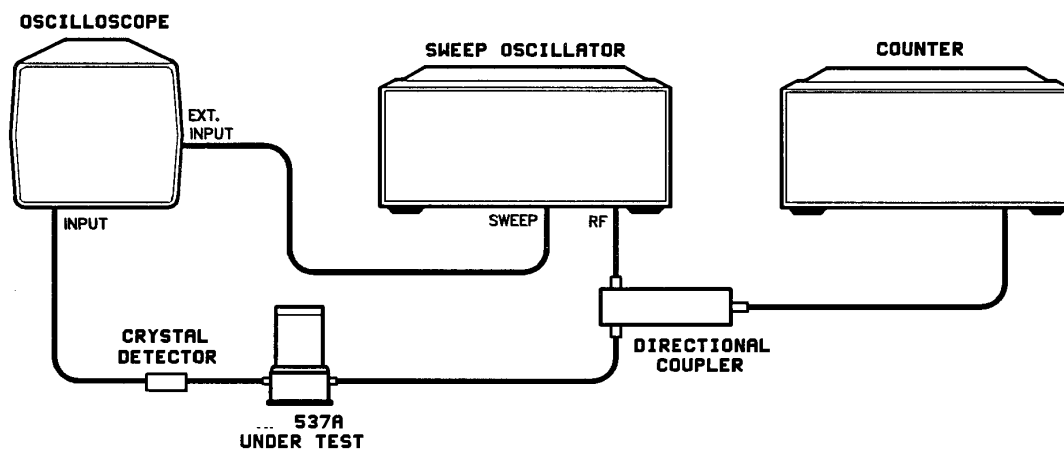

Figure 3 Overall Accuracy Test Setup
The procedures listed in Table 2 and Figure 3 on page 7 check performance for incoming inspection, periodic evaluation, and calibration. The tests are performed without access to the instrument interior. The performance standards are contained in Table 1 on page 1.
1. Connect the equipment as shown in Figure 3 on page 7.
Test equipment recommended for testing the 537A are listed in Table 2 on page 3. Test equipment other than that recommended may be substituted if their performance equals or exceeds the minimum required specifications given. Figure 2 on page 4 and Figure 3 on page 7 list procedures for checking instrument specifications. If dial accuracy is not within listed specifications, adjust 537A as detailed in the Calibration Alignment Procedure, as follows.